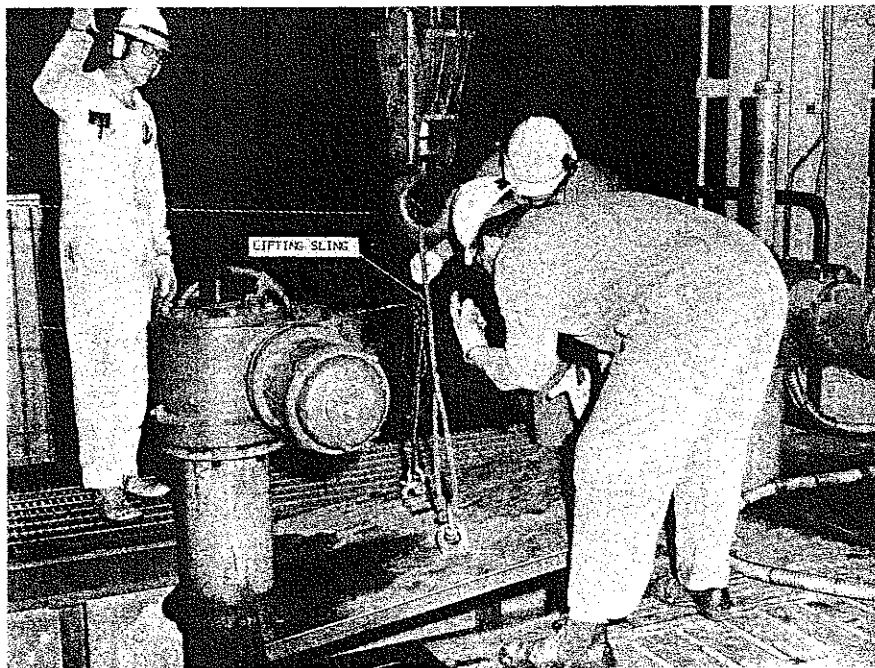

FIG. 7 HATCH COVER
- d. Remove hatch cover over 42" block valve with lifting fixture attached to the overhead crane (Fig. 7).